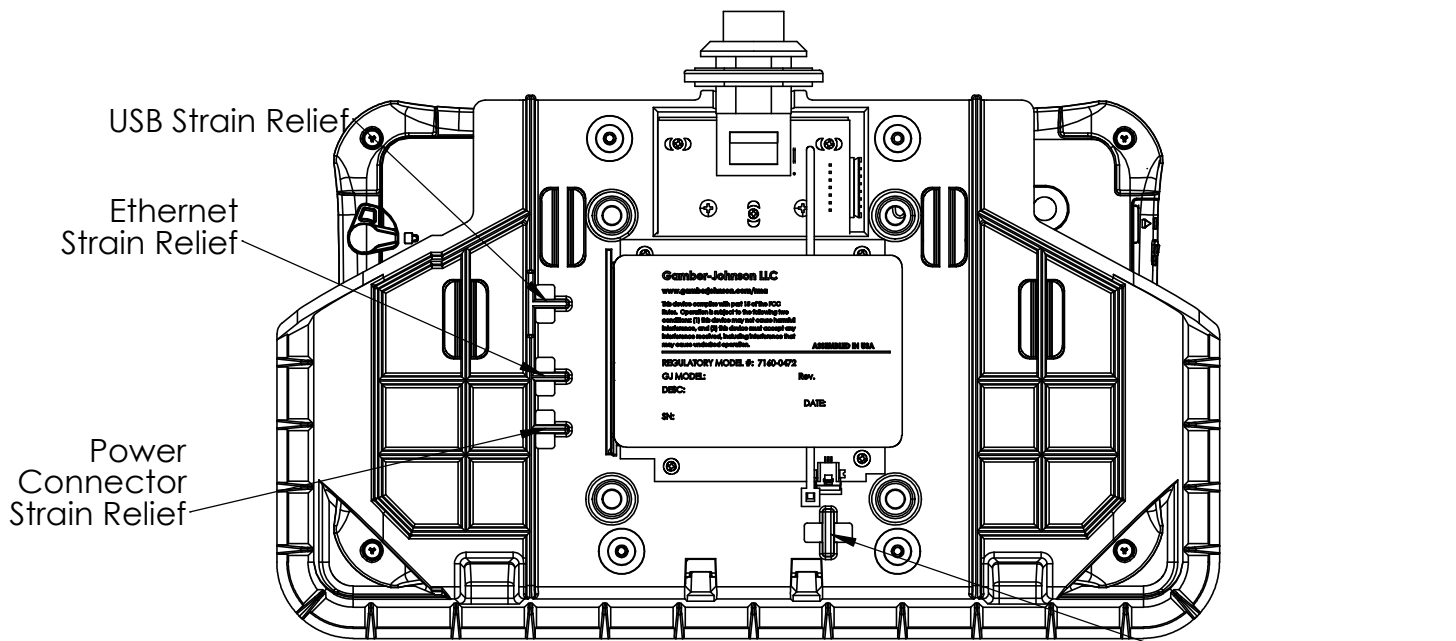

Figure 1. Strain Relief Points
3. Strain relief all cables using the provided cable ties and strain relief points (Figure 1).